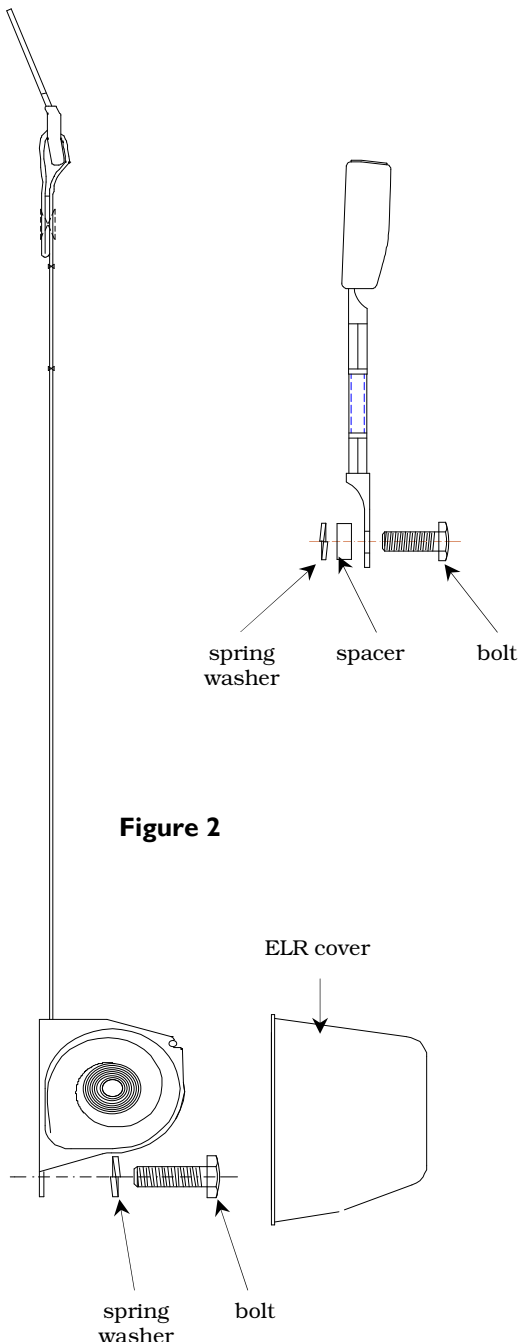

Figure 2
- Assemble buckle half as shown in figure 2.
- Assemble tongue half as shown in figure 2.